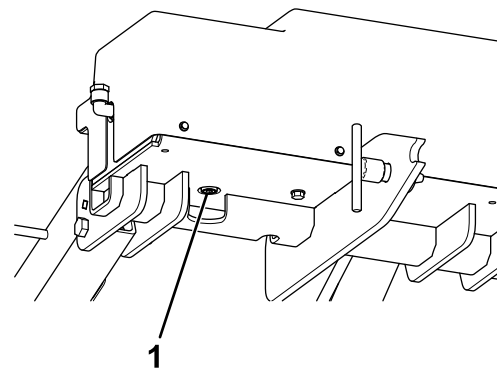

Figure 27
2. Clean the area around the hydraulic drain plug (Figure 27).